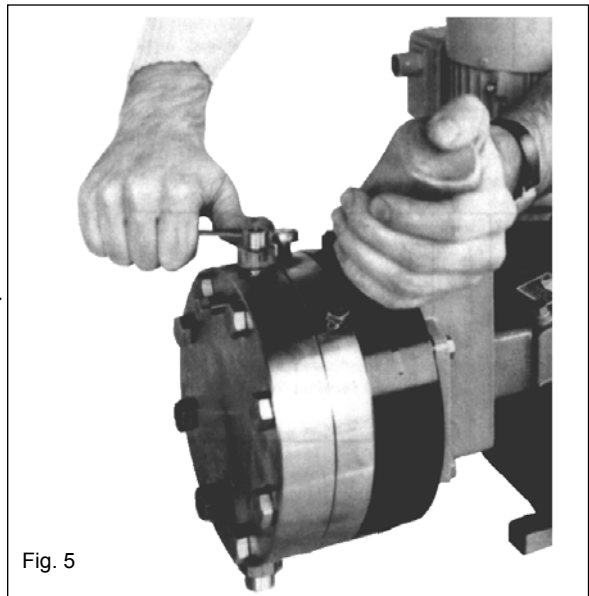

Fig. 5
Introduce intermediate fluid via bore of the lower venting screw (84) using a squeeze bottle (see fig. 5). When liquid comes out at the top and has stopped bubbling, tighten upper venting screw. Raise the pressure a little by means of squeeze bottle and simultaneously depress snifting valve (29) (hydraulic diaphragm is pushed to the rear support face). Maintain squeeze bottle pressure and tighten lower venting screw.